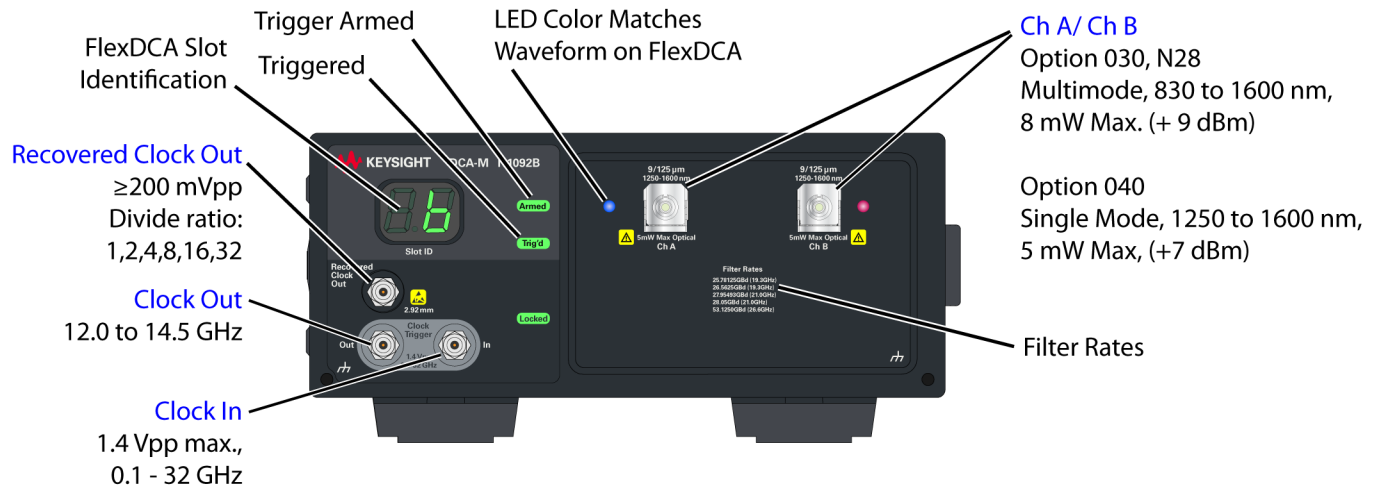

Figure 10. N1092B Option CDR Front Panel
- *Figure 10, N1092B Option CDR Front Panel*, on page 34